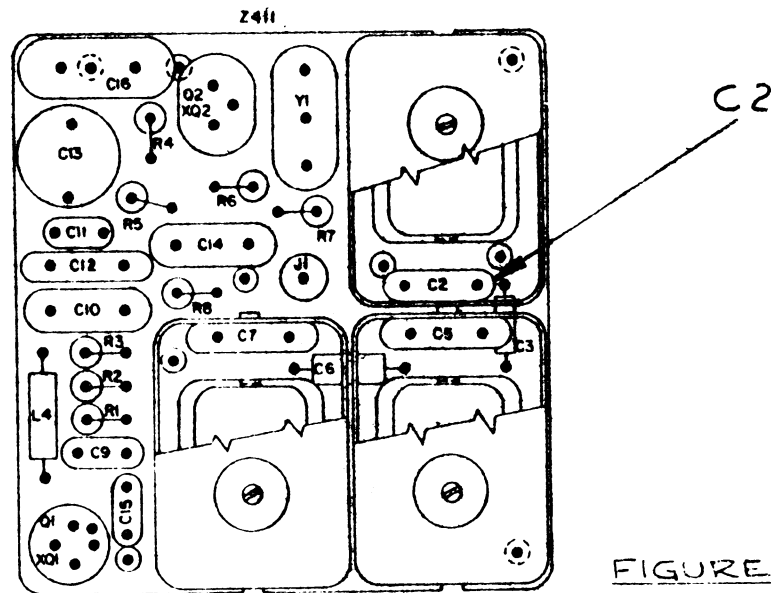

FIGURE 1
2. Figure 1 shows approximate orientation of the HI-IF Board on 4EF16A10 RF Assembly.
- B. Remove can which is shown cut away, exposing C2, in figure 1 by unsoldering the can tabs from the HI-IF Assembly.